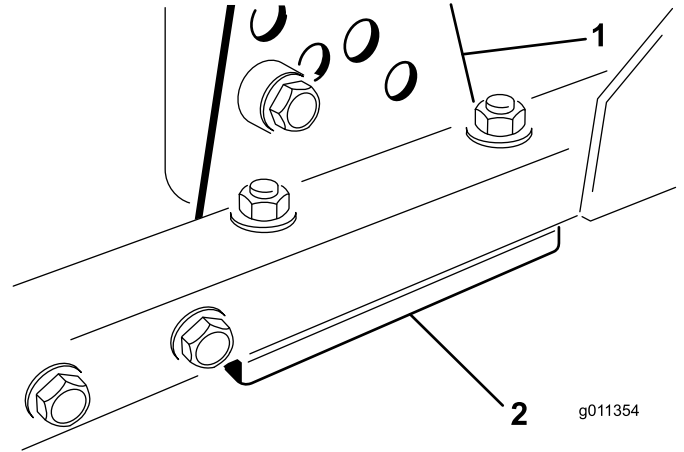

Figure 66
- Remove the height-of-cut bracket, (front, left, or right) from the deck frame (Figure 66).
- Adjust 1.5 mm (0.060 inch) shims and/or 0.7 mm (0.030 inch) shim between the deck frame and bracket to achieve the desired height setting (Figure 66).